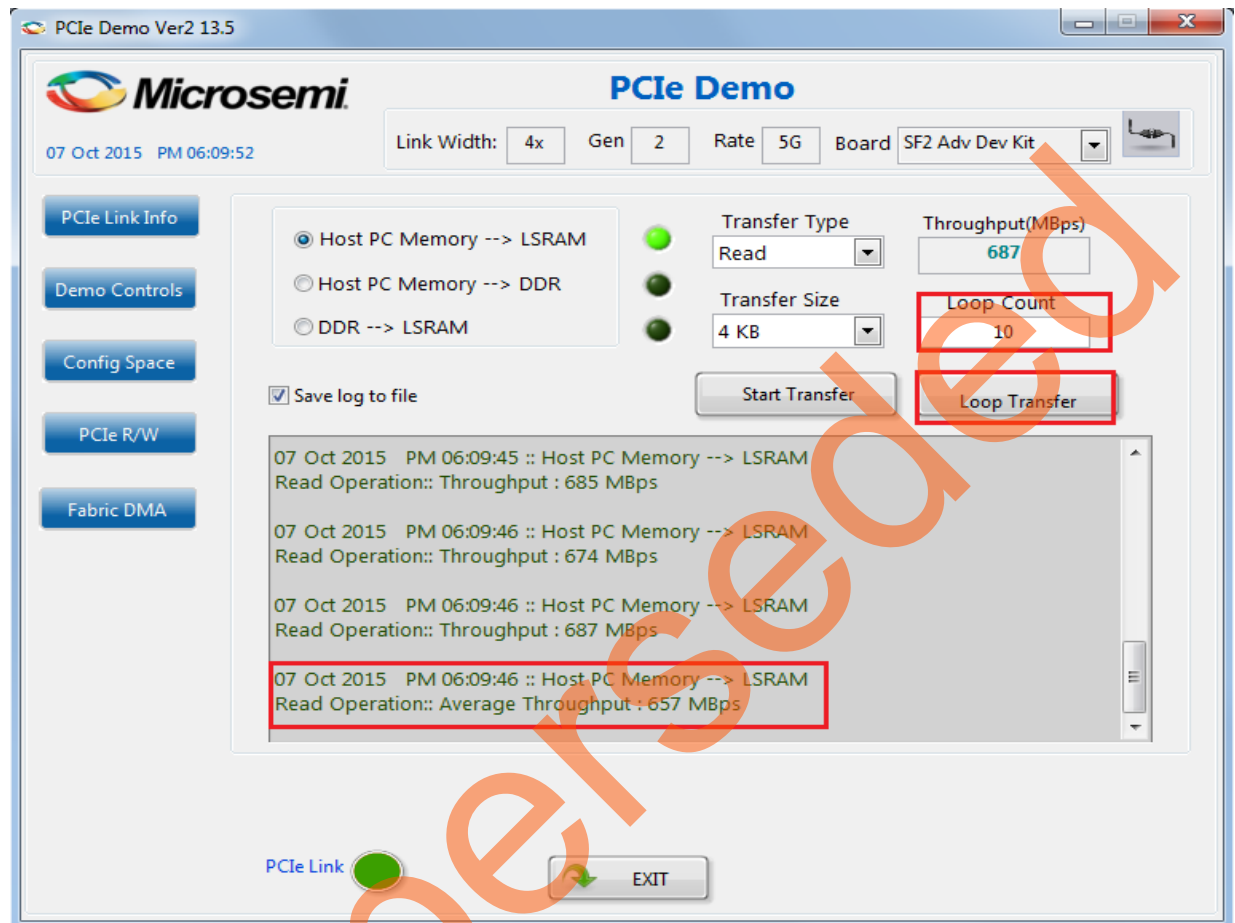

Figure 27 • DMA between Host PC Memory and LSRAM - Loop Transfer
17. Enter 10 in the **Loop Count** field and click **Loop Transfer** to perform 10 sequential DMA transactions. After completion of data transfer, the PCIE_DEMO application displays the throughputs as shown in Figure 27. The average throughput is also logged. The log file is stored in the Host PC at C:\PCIE_Demo\Driver\Install.